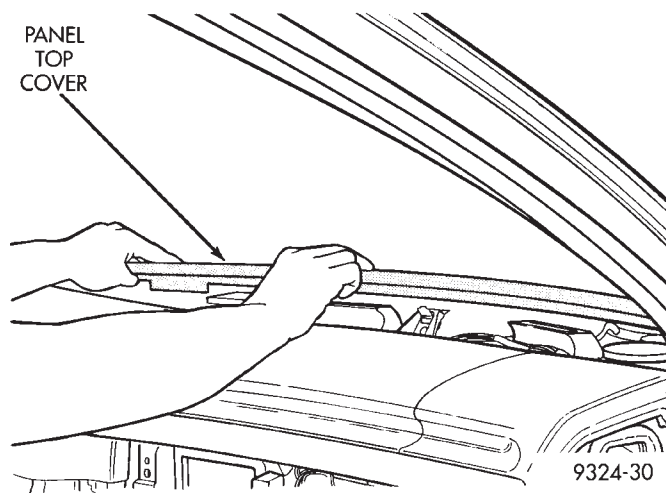

**Fig. 55 Panel Top Cover**
(18) Remove the instrument panel top cover (Fig. 55). It is held in place by retainer clips at both ends of the cover. To remove carefully pry upward at one end of the cover until the clip is disengaged. Proceed to the opposite side and gradually pry the rear edge of the top cover along the entire width of the panel.